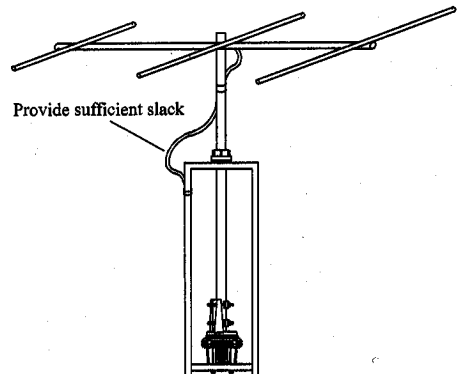

Figure 8
8. Provide sufficient slack in the coaxial cable such that the antenna can rotate over its full 450° range without putting *any* tension on the coax (see Figure 8). Secure the coax to the tower, using electrical tape and/or UV-resistant cable ties.